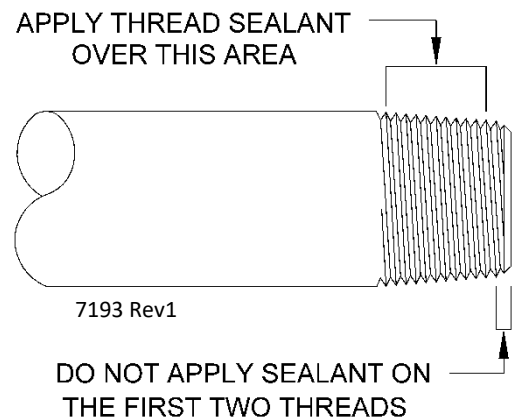

Figure 2 Applying thread sealant
7. Apply thread sealant to the fuel line kit as per Figure 2. The fuel line kit includes the manual shut-off valve and 1/4 NPT nipple (A7 and A8 in Appendix F, Figure 14).
2. Apply thread sealant to the fuel line threads as per Figure 2.